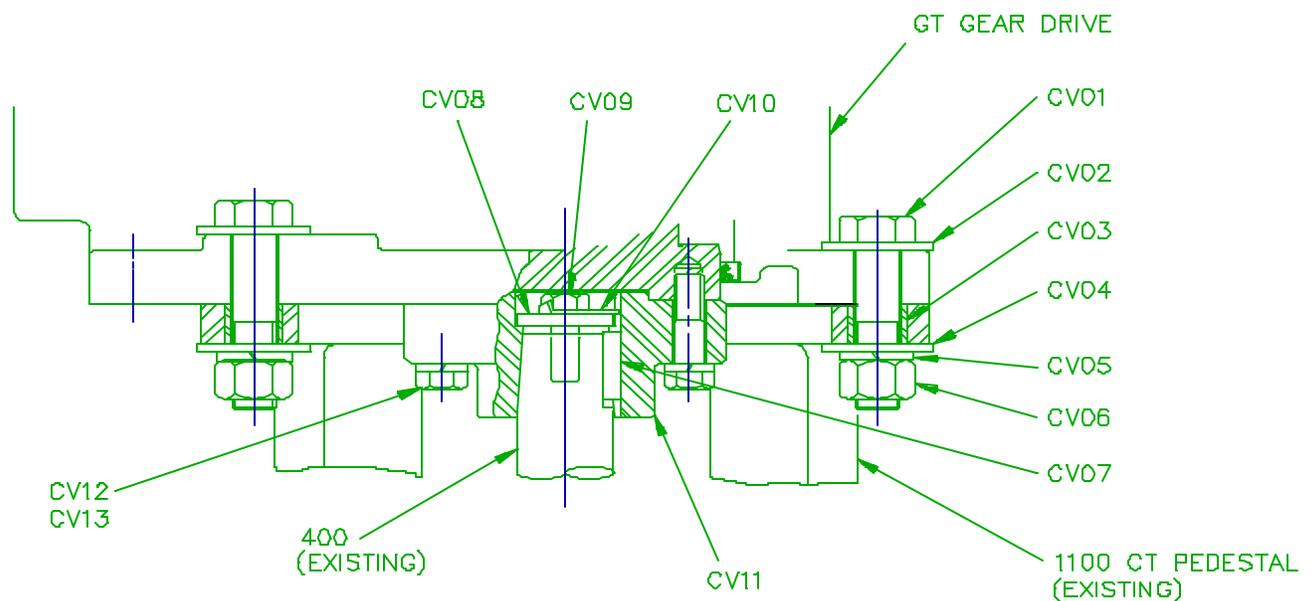

Figure 1C: Conversion Kit Installation
CTD open tank unit conversions require only the replacement of the existing low speed coupling with a new coupling. New internal shaft fasteners and metric external coupling mounting fasteners are also supplied. Refer *only* to items (CV07, CV08, CV09, CV10, CV11, CV12, & CV13) in *Figure 1C*.
CTP, CTA, CTNS, and CTN pedestal unit conversions not only require the replacement of the low speed coupling as noted above, but also a special fastener set to mount the new GT drive onto the existing CT pedestal. Hole spacers (CV03) are fitted into the existing CT pedestal gear drive mounting holes and the new GT drive is secured with fasteners (CV01, CV02, CV04, CV05, CV06). Refer to *Figure 1C*.
2. For the **D-style open tank unit**, lift and suspend the GT gear drive assembly over the extension shaft coupling half (**CV11**) close enough to allow installation of new coupling bolts and lockwashers. Install two coupling bolts (**CV12, CV13**) at 180°. Tighten bolts to engage the tenon and pull the low speed shaft of the gear drive to the coupling face. Remove blocking and install the remaining coupling bolts and lockwashers, refer to *Figure 1C, page 1*. Torque M12 bolts to 48 ftlb, 66 Nm. Lower the agitator drive assembly onto the support structure. The gear drive assembly **must be level within 1/4°**. If shimming is required, use full width shims under the agitator drive housing to provide a solid joint for bolting the agitator drive assembly to the support structure. Lubricate and install the agitator drive mounting bolts (supplied by customer) and torque to the appropriate value shown in the *GT agitator manual*.
For the **P-style pedestal unit**, lift and suspend the GT gear drive assembly over the extension shaft coupling half (**CV11**) close enough to allow installation of new coupling bolts and lockwashers. Install two coupling bolts (**CV12, CV13**) at 180°. Tighten bolts to engage the tenon and pull the low speed shaft of the gear drive to the coupling face. Remove blocking and install the remaining coupling bolts and lockwashers. Torque M12 bolts to 48 ftlb, 66 Nm. Lower the agitator drive onto the existing drive support pedestal (**1100**). Insert hole spacer (**CV03**) into each drive mounting hole in the pedestal as shown in *Figure 1C, page 1*. Lubricate and install each new agitator drive mounting bolt, flatwashers, lockwasher and hex nut (**CV01, CV02, CV04, CV05, & CV06**). Torque M20 bolts to 238 ftlb, 323 Nm.
For the **A-style stuffing box unit**, lift GT gear drive assembly and lower onto existing drive support pedestal (**1100**). Insert hole spacer (**CV03**) into each drive mounting hole in the pedestal as shown in *Figure 1C, page 1*. Lubricate and install each new agitator drive mounting bolt, flatwashers, lockwasher and hex nut (**CV01, CV02, CV04, CV05, & CV06**). Torque M20 bolts to 238 ftlb, 323 Nm. Be certain hex nuts (**1306**) and hex bolts (**1309**) have been loosened. Install two coupling bolts (**CV12, CV13**) at 180°. Tighten bolts to engage the tenon and pull the coupling face to the low speed shaft of the gear drive. Install remaining coupling bolts and lockwashers and torque M12 bolts to 48 ftlb, 66 Nm. Install split packing gland (**1312**) and gland clamps (**1304**). Retain with hex adjusting nuts (**1301**) and tighten to center packing housing (**1314**) on the agitator extension shaft. Split packing gland must be square with the packing housing. Tighten hex nuts (**1306**) and hex bolts (**1309**). Torque 1/2" bolts to 56 ftlb, 76Nm. Let the packing sit for five or ten minutes so that it can cold flow and adjust to the gland pressure. Loosen the hex adjusting nuts, then finger tighten. After starting the unit, adjust the packing by tightening the hex adjusting nuts one flat at a time, allowing 15 minutes between each take-up for the packing to reseal itself. Repeat these adjustments at 15 minute intervals until the desired leakage is obtained. Do not over tighten.
For the **NS-style single mechanical seal unit**, lift GT gear drive assembly and lower onto existing drive support pedestal (1100). Insert hole spacer (CV03) into each drive mounting hole in the pedestal as shown in *Figure 1C, page 1*. Lubricate and install each new agitator drive mounting bolt, flatwashers, lockwasher and hex nut (CV01, CV02, CV04, CV05, & CV06). Torque M20 bolts to 238 ftlb, 323 Nm. Loosen cartridge seal mounting bolts (1418) to allow cartridge seal to float with agitator extension shaft (400). Install two coupling bolts (CV12, CV13) at 180°. Tighten bolts to engage the tenon and pull the coupling face to the low speed shaft of the gear drive. Install remaining coupling bolts and lockwashers and torque M12 bolts to 48 ftlb, 66 Nm. Realign the cartridge mechanical seal to the shaft by tightening the cartridge seal mounting bolts. Tighten seal sleeve setscrews (1407). Remove centering clips (1413). Save clips for future seal changes.
For the **N-style double mechanical seal unit**, lift GT gear drive assembly and lower onto existing drive support pedestal (1100). Insert hole spacer (CV03) into each drive mounting hole in the pedestal as shown in *Figure 1C, page 1*. Lubricate and install each new agitator drive mounting bolt, flatwashers, lockwasher and hex nut (CV01, CV02, CV04, CV05, & CV06). Torque M20 bolts to 238 ftlb, 323 Nm. Loosen cartridge seal mounting bolts (1523) to allow cartridge seal to float with agitator extension shaft (400). Install two coupling bolts (CV12, CV13) at 180°. Tighten bolts to engage the tenon and pull the coupling face to the low speed shaft of the gear drive. Install remaining coupling bolts and lockwashers and torque M12 bolts to 48 ftlb, 66 Nm. Realign the cartridge mechanical seal to the shaft by tightening the cartridge mounting bolts. Tighten exposed seal sleeve setscrews (1506). Remove centering clips (1516). Save clips for future seal changes. Tighten remaining seal sleeve setscrews (1506) that were obscured by the retaining clip cap screws (1515). Re-connect lubricant lines. Charge system with lubricant and pressure test. Refer to *CTN agitator manual* for mechanical seal lubrication instructions.